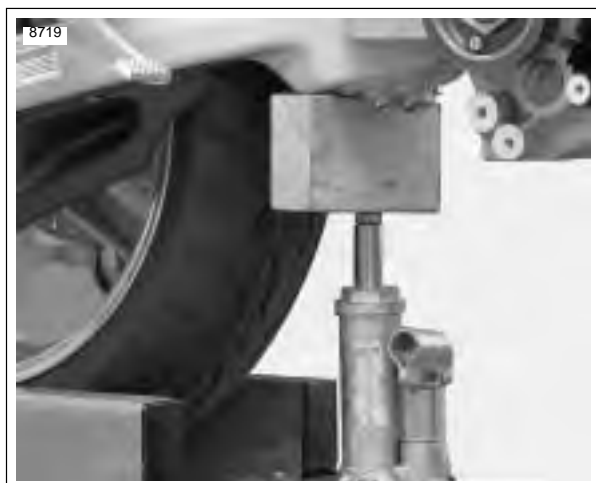

Figure 3-23. Supporting the Swingarm (Typical)
36. See Figure 3-23. Support swingarm/oil tank with wooden blocks, jack, etc.